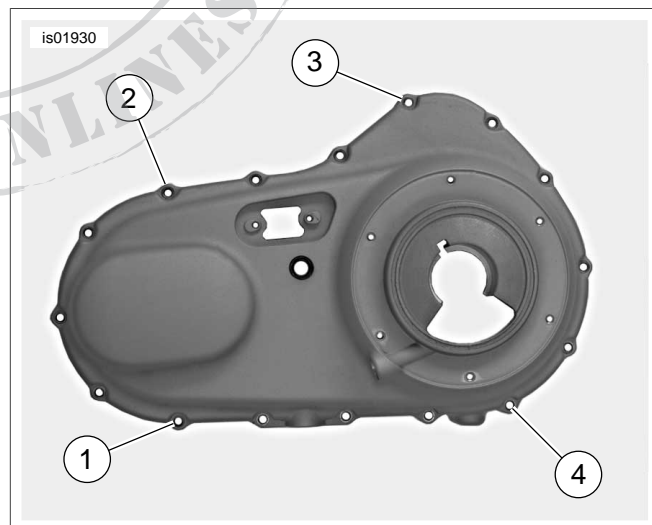
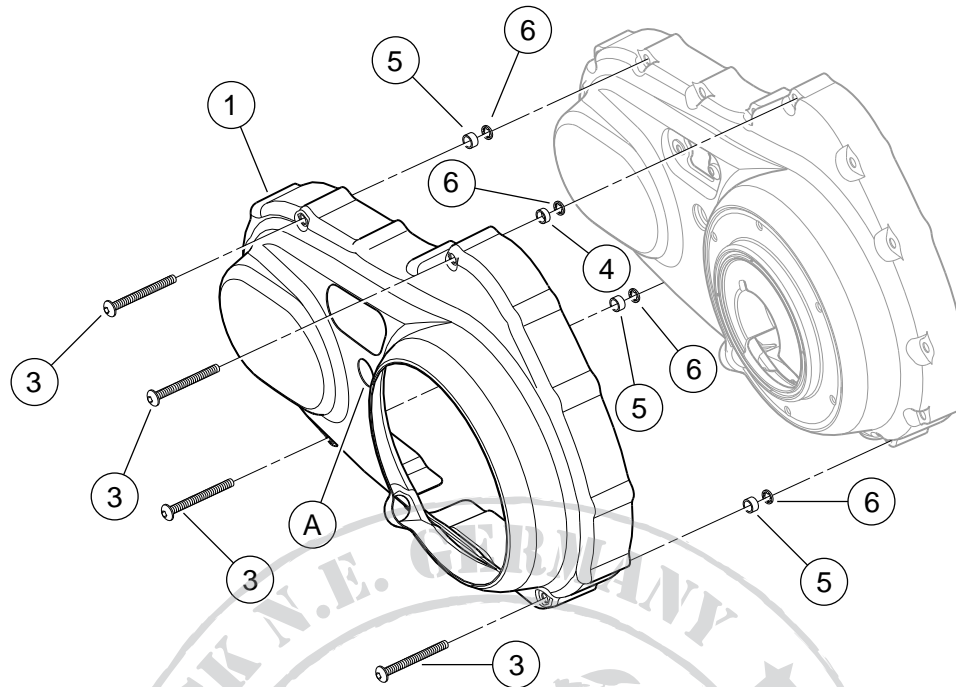

Figure 2. Primary Cover Mounting Screw Locations
Figure 3. Service Parts: Chrome Primary Trim Cover
See Figure 3 and Table 1.
4. See Figure 2 and Figure 3. Remove and discard the primary cover hex-socket head screws from the four locations shown.
9. See Figure 2. Insert a chrome screw (3), from the outside, through the hole in location 3 on the chrome trim cover. Place the **thinner** steel spacer (4) onto the threads of the screw from the inside of the trim cover.
10. Use a 5/32 inch hex key on the screw head, and grip one of the Nylon keeper washers (6) with a pliers. Install the washer onto the screw until several threads extend from the washer, capturing the screw and spacer on the trim cover.
11. Insert the remaining chrome screws, from the outside, through the holes in locations 1, 2 and 4 on the chrome trim cover. Place a **thicker** steel spacer (5) onto the threads of each screw from the inside of the trim cover.
13. Position the trim cover over the primary cover with the transmission shift lever shaft extending through the clearance hole (A) in the chrome trim cover.
the trim cover is firmly in place. Tighten the screws, in the sequence shown in Figure 2, to 100-120 **in-lbs** (11.3-13.5 Nm).